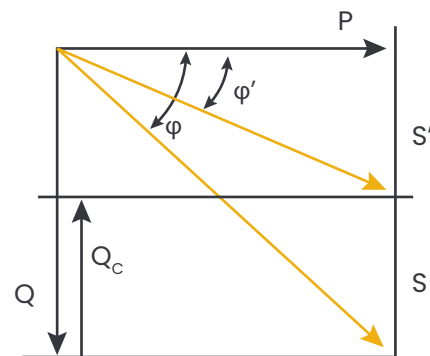

Figure 2 Diagram of PF correction
The result is a reduced apparent power, and an improved power factor (PF) as illustrated on the Figure 2. The power generation and transmission networks are partially relieved, reducing power losses and making additional transmission capability available. Since the reactive power is supplied by capacitors there is no billing of reactive power by the utility (energy supplier)